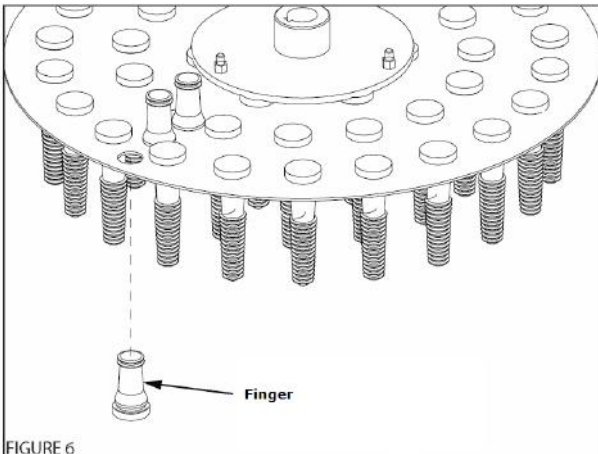

FIGURE 6
6. Remove the spring trough and mount the finger on the finger plate (**FIGURE 6**)